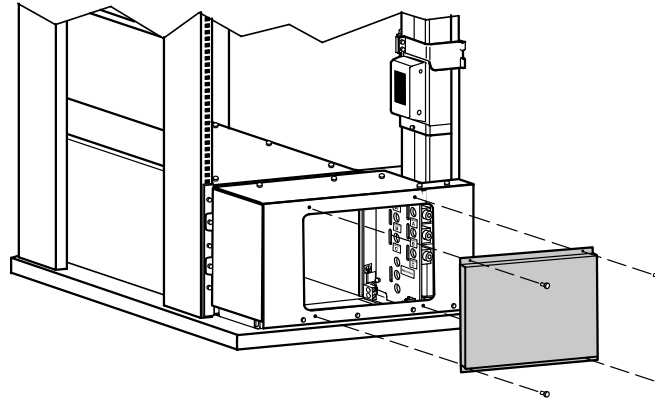

Figure 4. Removing the Wireway Access Cover (Bottom Entry Shown)
1. Remove the four screws on the wireway access cover and retain. Remove the cover and retain. See Figure 4.